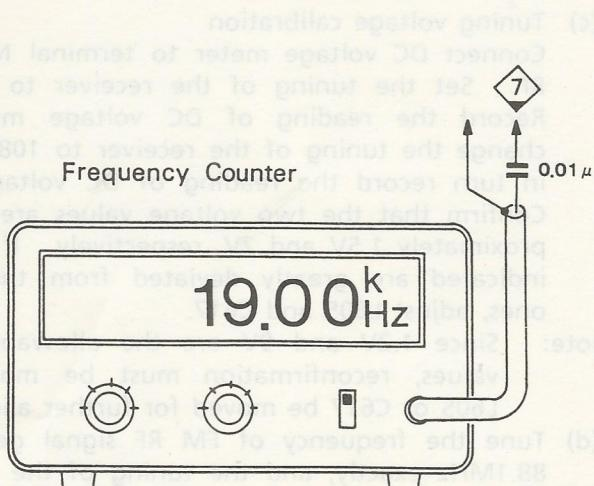

Fig. 12
- (2) Align trimmer resistor R675 until the indication of frequency counter indicating 19kHz. Refer to Fig.12 illustrates the frequency counter indicating 19kHz.